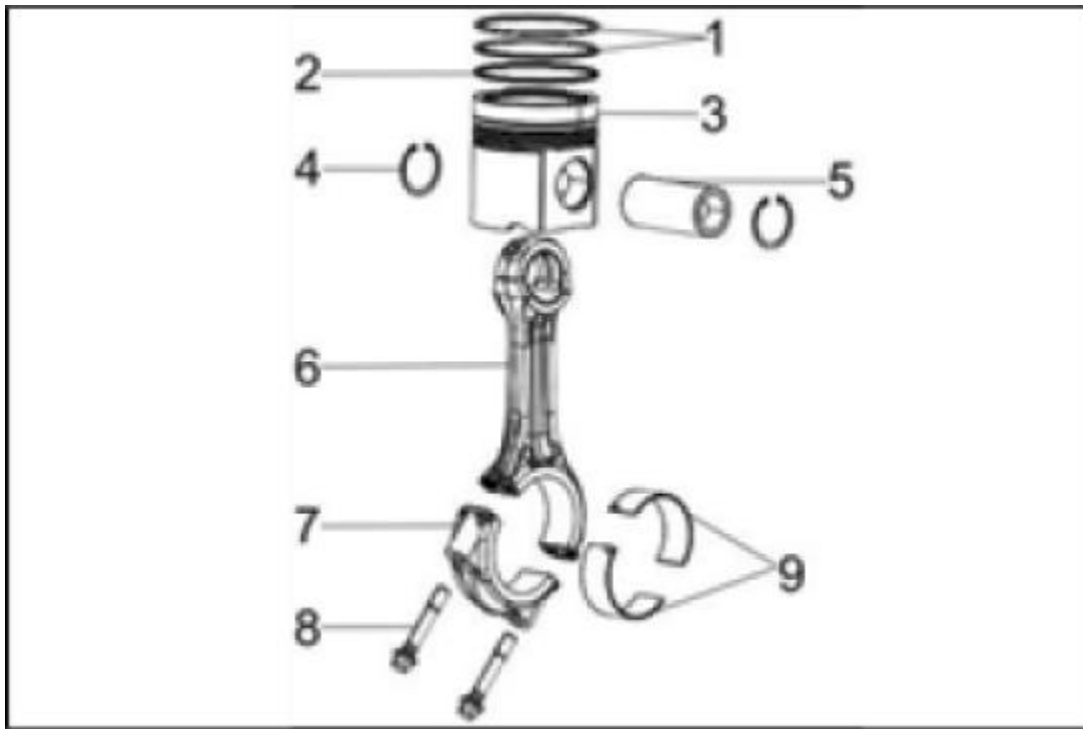

Figure 84.
14. Remove the connecting rod bearings (Figure 84, Item 9).
15. Remove the compression rings (Figure 84, Item 1) from the piston using a piston ring expander.
16. Remove the oil ring (Figure 84, Item 2) from the piston using a piston ring expander.
17. Remove the circlips (Figure 84, Item 4) from the piston pin.
18. Remove the piston pin (Figure 84, Item 5) and connecting rod (Figure 84, Item 6) from the piston (Figure 84, Item 3).